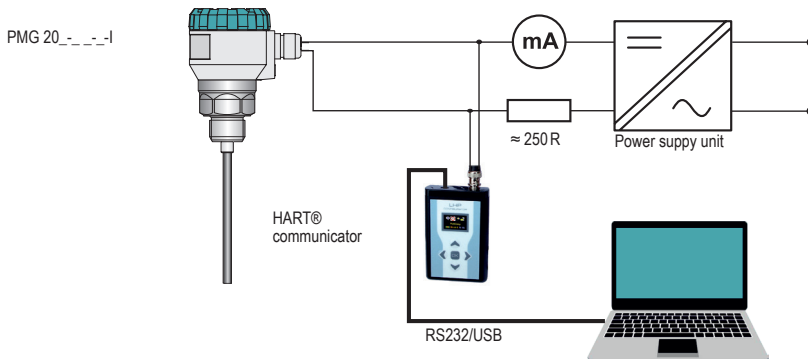

Fig. 28: Connection of peripheral devices with HART protocol
A HART communicator is required to set the level meter and record the measurement data, via which direct communication with the level meter can take place or which can be used to convey communication with a peripheral device, see fig. 28.
2. Shorten the rod electrode by means of a suitable metal saw and file the end of the electrode. The length of this electrode must be 7 mm shorter than dimension "E" in fig. 28. At the rope electrode, it is necessary to loosen three fastening screws on the ballast and to pull out the end of the cable, see fig. 31. Check the length of the rope after shortening it – the cable is suspended in the ballast up to a distance of approximately 60 mm. Shorten the rope with a wire cutter. Make sure that the end of the rope does not fray.